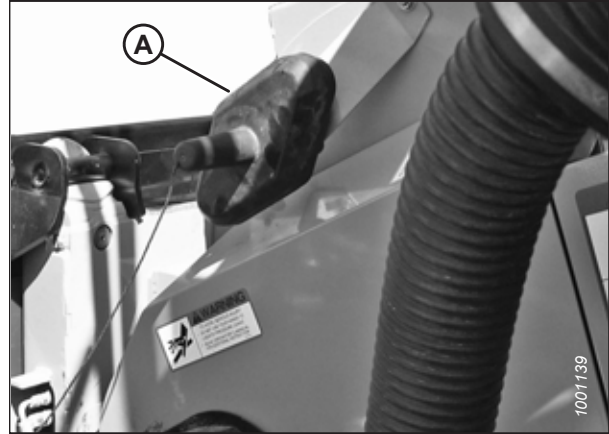

Figure 4.27: Receptacle Cover
- Place float module receptacle cover (A) onto the combine receptacle as shown in Figure 4.27, page 66.